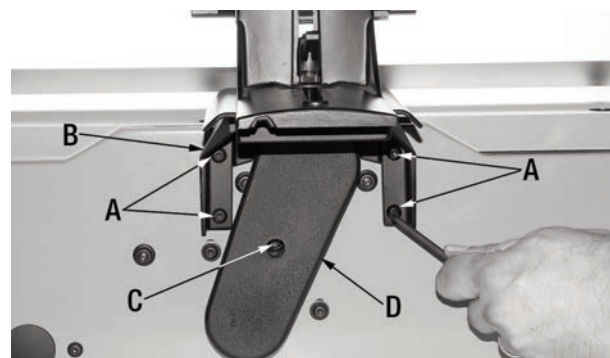
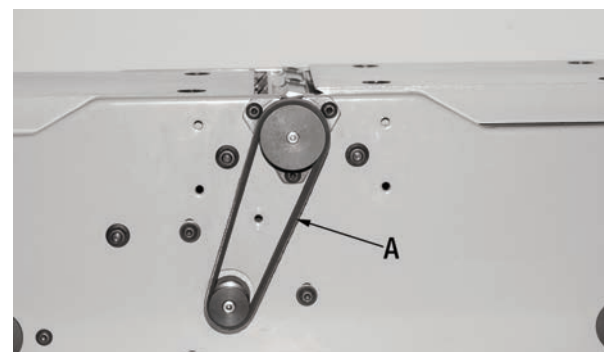

FIGURE 16
FIGURE 17
- 1) To replace the drive belt remove the 4 round head allen screws (A) Fig.16 that hold the fence support arm (B) and remove the fence assembly from the jointer.
- 2) Undo the screw (C) and remove the belt cover (D).
- 4) Install a new belt (A) Fig.17 onto the lower pulley first, then stretch part of the belt onto the upper pulley and rotate the pulley by hand to seat the belt fully on the pulleys.